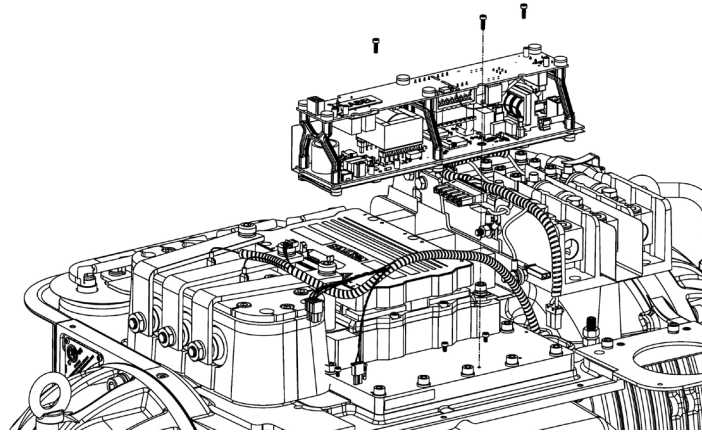

Figure 10 – Open Frame DC-DC Converter Removal
- Loosen the fasteners that are located next to the Inverter. Refer to Figure 10 (Open Frame DC-DC Converter Removal) for this and the next two (2) steps.